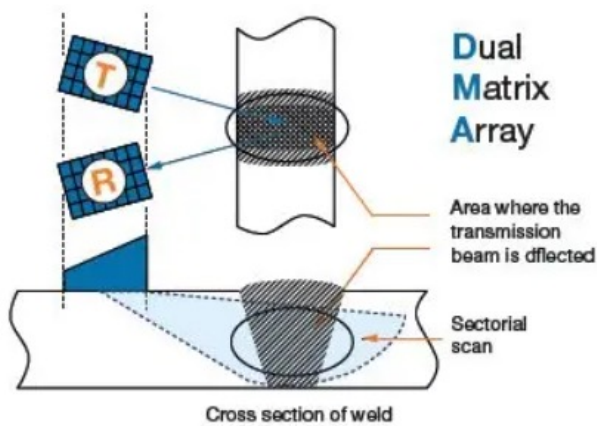

Figure 5: Illustration of the TRL technique. TRL harnesses separate transmitting and receiving probes to reduce noise.
When applied with longitudinal waves, the TRL technique combines reduced interference with deeper penetration than shear waves, resulting in cleaner signals with a lower noise floor (Figure 5). The method can be executed using conventional UT transducers or phased array probes.
- **Sectorial scans** for comprehensive coverage of the weld volume (Figure 5)